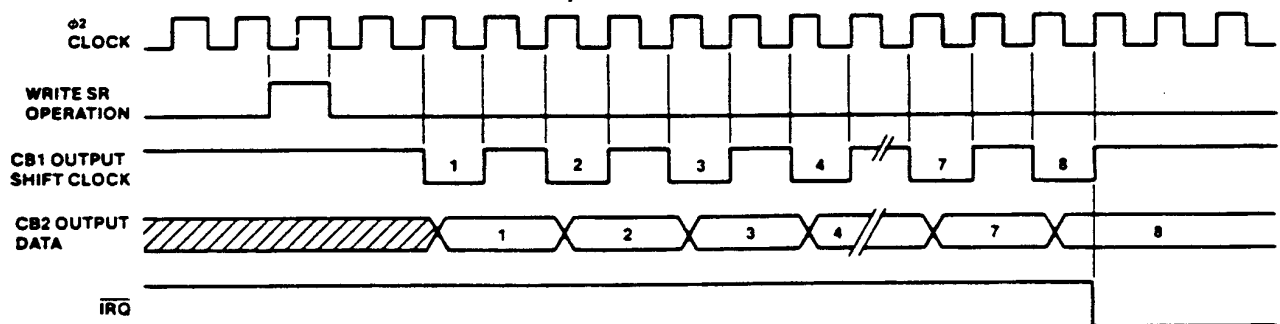

Figure 35. Shift Out— ϕ_2 Control
Shift Out—phi2 Clock Control (110)—In this mode, the shift rate is controlled by the system phi2 Clock. Refer to Figure 35.